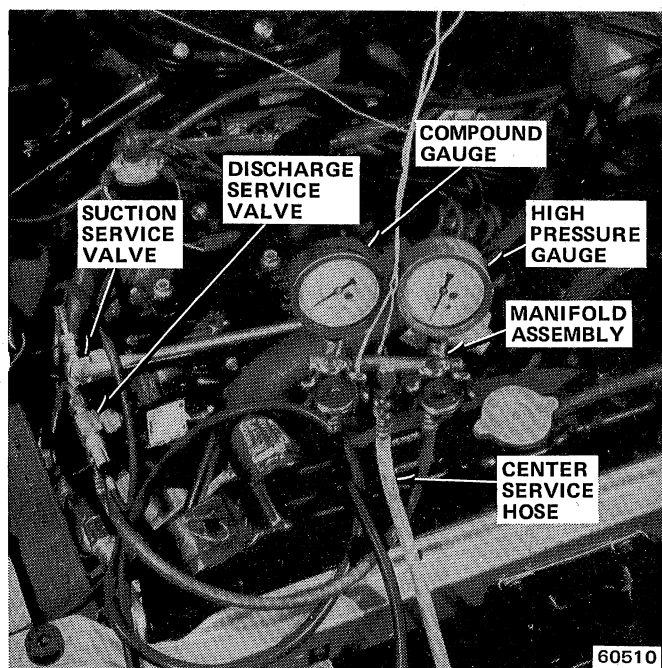

Fig. 3E-14 Typical Pressure Gauge and Manifold Assembly Connections for Discharging System
- (1) Connect pressure gauge and manifold assembly to proper service valves.
- (2) Turn both manifold hand valves to maximum counterclockwise (open) position.
- (3) Open both service valves a slight amount (from back-seated position) and allow refrigerant to discharge **slowly** from system (fig. 3E-14).